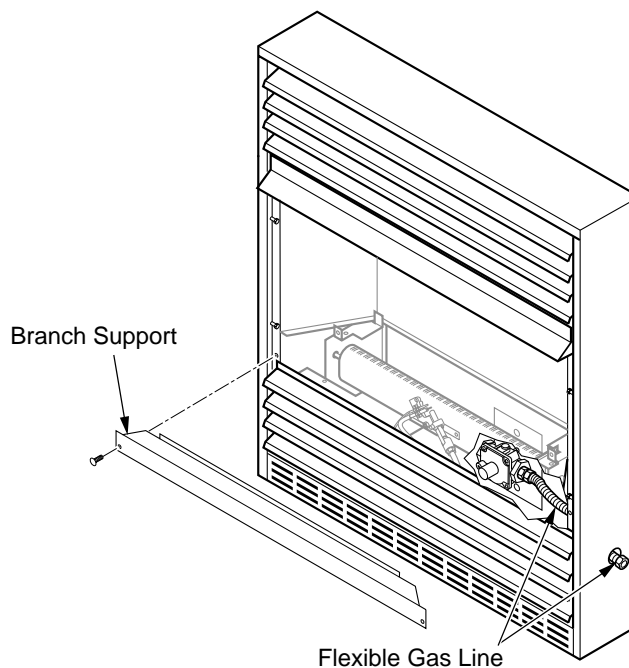

Figure 31 - Removing Branch Support From Fireplace (Thermostat-Controlled Model Shown)
1. Remove screws that attach branch support to fireplace (see Figure 31). Carefully lift up branch support and remove from fireplace (see Figure 31).
NOTICE: Most building codes do not permit concealed gas connections. A flexible gas line is provided to allow accessibility from the fireplace (see Figure 31). The flexible gas supply line connection to the equipment shutoff valve should be accessible.